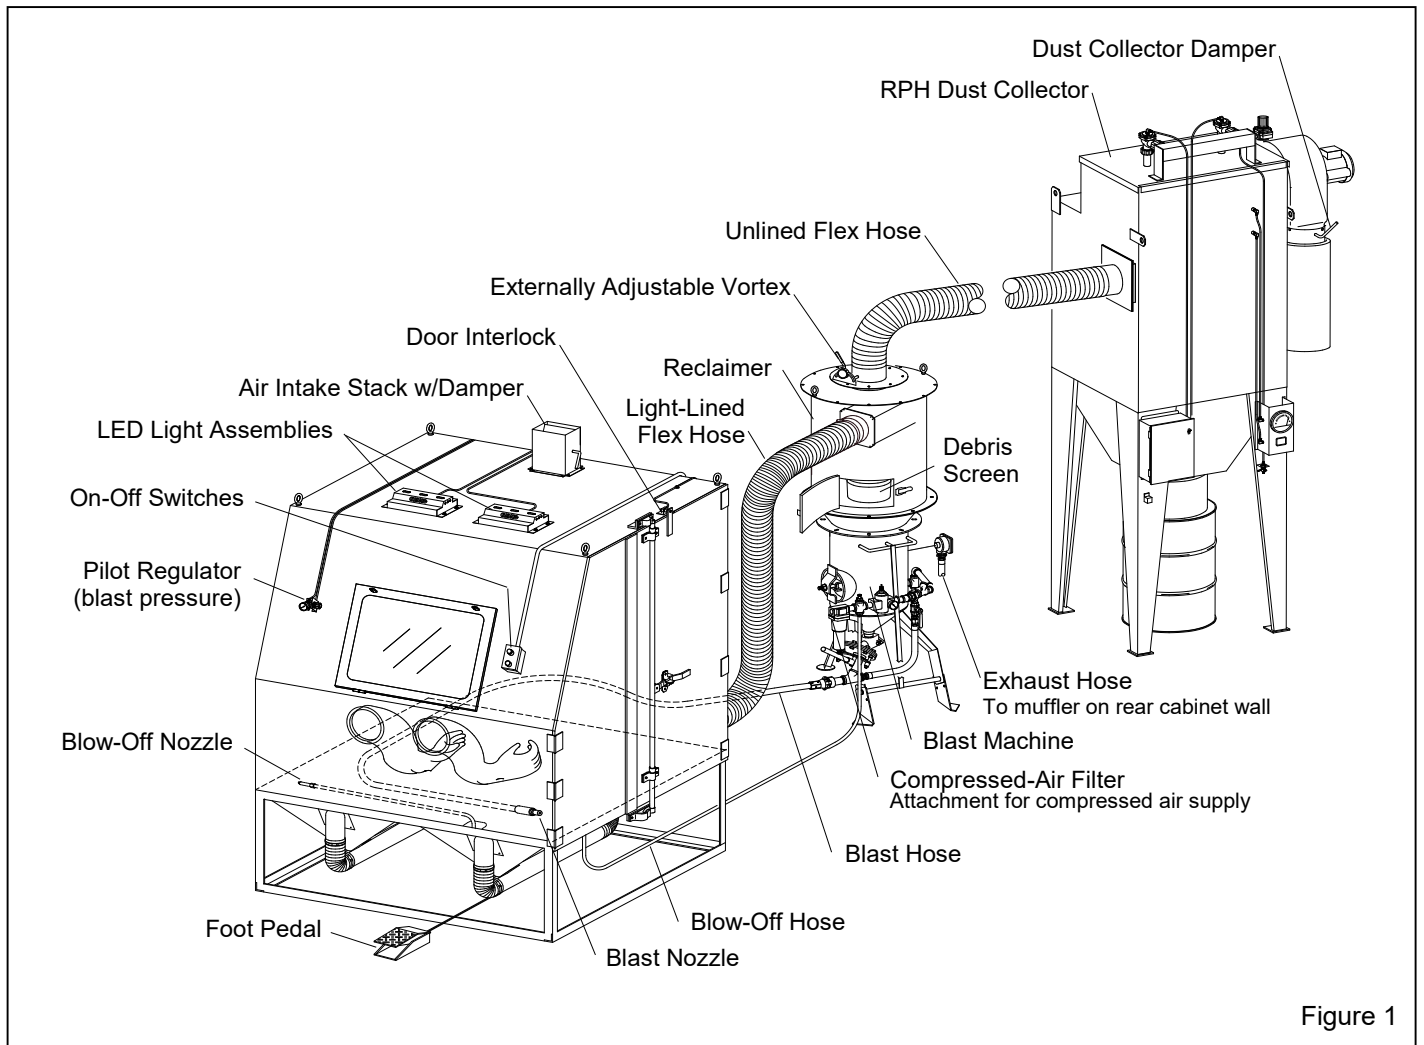

Figure 1
1.4.3 Refer to Figure 1 for a typical arrangement and callout of components. The overall height of an RPH-2 is approximately 10.5 ft and 12 ft when the top access door is open. The illustration shows the standard 900 cfm reclaimer mounted atop the blast machine.
1.7.1 RPH Dust Collector: An RPH-2 (900 cfm), shown in Figure 1, is the dust collector provided with a standard cabinet. Refer to manual number 21449.
2.1.1 Refer to Figure 1 for the general arrangement and Figure 6 for the control line schematic. Select a location where compressed air and electrical service are available. The cabinet location must comply with OSHA and local safety codes. Allow for full access to all doors and service areas and for efficient handling of large parts. Provide enough clearance in front of the dust collector to remove the dust drawer without tipping. Ideally, locate the blast machine directly behind the cabinet with the blast-hose connection toward the cabinet. The reclaimer may be rotated on the blast machine to allow for as few bends as possible to prevent wear. Determine the best location for all components and position them before making compressed-air connections, electrical connections, and attaching flex hose.